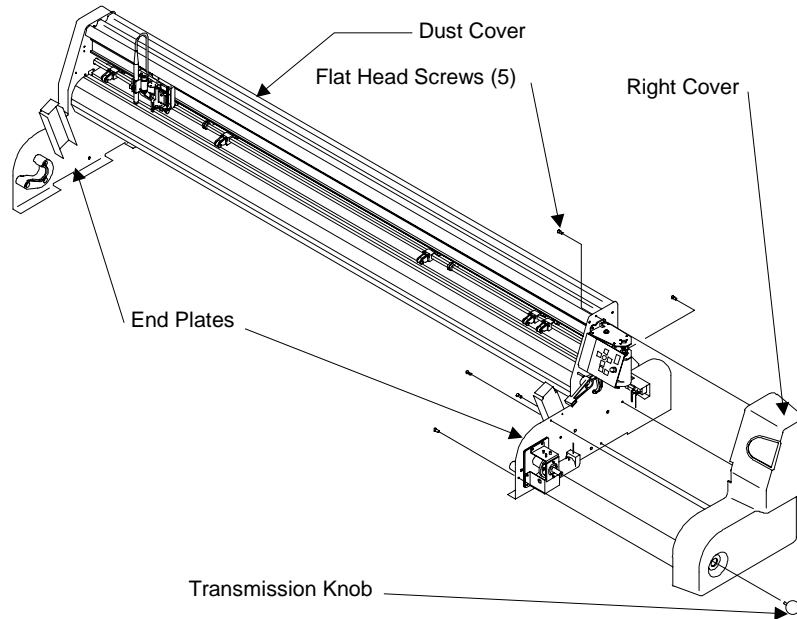

Figure 6. Removing the Transmission Knob and the Right Cover
of the Summit 2200. Note the position of the transmission knob in Figure 6.
6. Reinstall the five black, flat head screws to re-attach the right end cover to the right side of the Summit 2200. Install the top screw first. Use the access hole in the stand leg to install the lower screw. Refer to Figure 6.